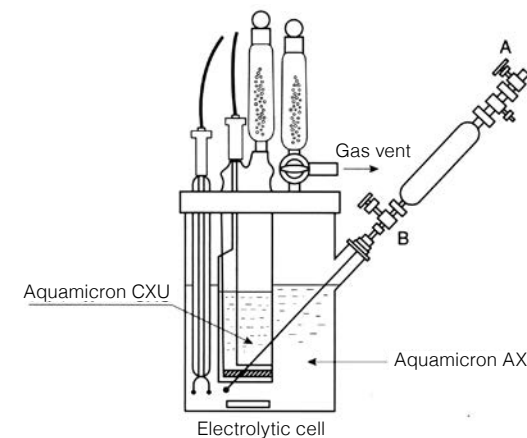

Figure 23: Injecting the sample (coulometric titration)
- (1) First place 150ml of anolyte (or 100ml of general-use dehydrated solvent) in an electrolytic cell and use coulometric titration (or Karl Fischer Reagent SS-X) to remove all moisture.
- (2) Introduce the syringe needle through the side port of the electrolytic cell (or titration flask) until it reaches the bottom of the cell (or titration flask), as shown in Figure 23.